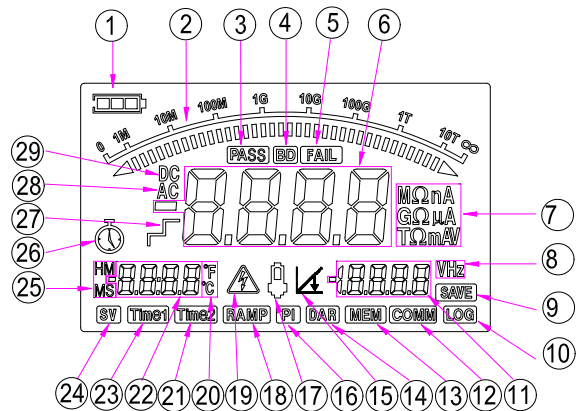

Figure 3
4.3 LCD display (As shown in Figure 3)